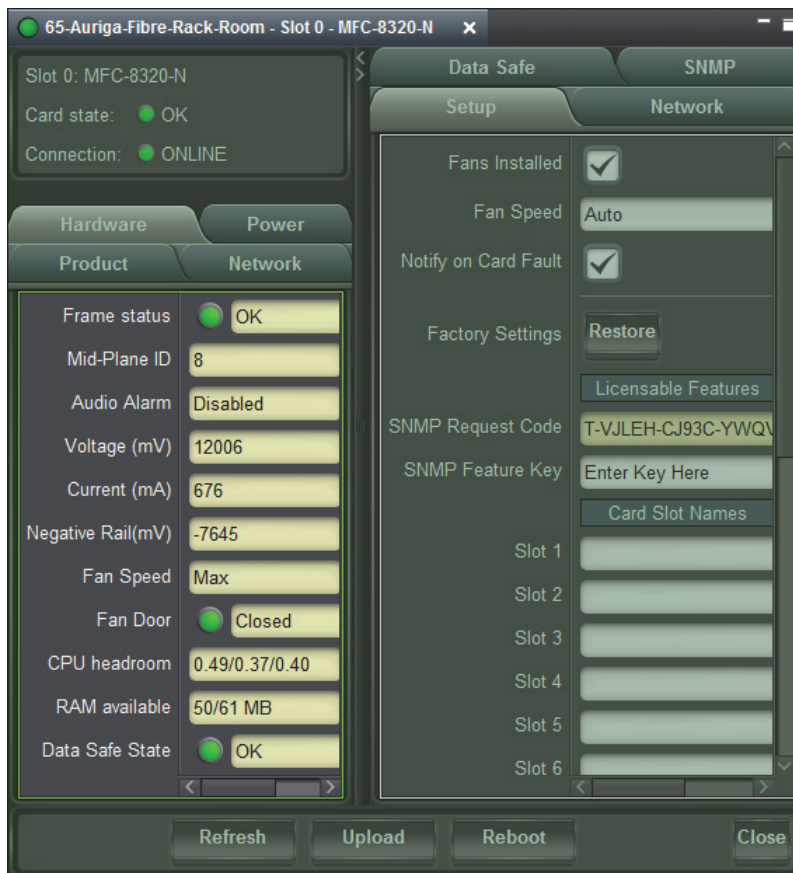

Figure 5.8 - A Device View, with a Group of Device Controls Selected (bright green outline)
- You can select a single control or a group of controls. As you hover the Device View, the selected control(s) are indicated by a white outline (**Figure 5.8**). When you click to select them, the outline turns bright green.